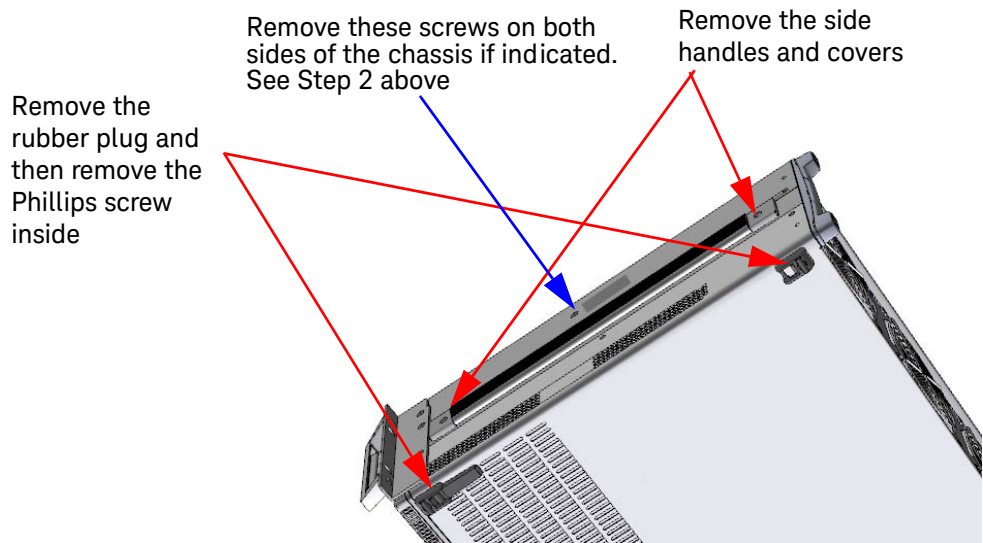

Figure 1 Remove the M9018A chassis handles and feet.
- 1 Refer to Figure 1 below. For rack mounting, remove the side handles and handle covers from both sides of the M9018A PXIe chassis.
- 2 On M9018A chassis with serial number TW54XXXXX and later, two additional screws must be removed (one on each side of the chassis). Refer to Figure 1. Note that earlier chassis did not have these screws.
- 3 Remove the four chassis feet by pulling out the small rubber insert on each foot and then removing the Phillips screw that attaches the foot to the chassis. See Figure 1.